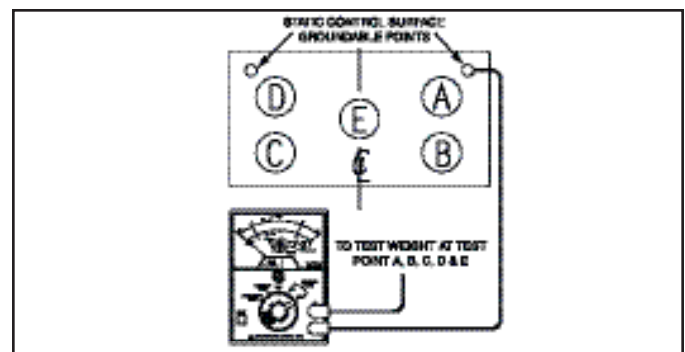

Figure 5. Qualification Tests of Installed Surfaces.
- B. Set the SCS 701 Analog Surface Resistance Megohmmeter Kit on a table top or other stable surface and place a test weight at the desired test point as shown in Figure 5. Connect the test leads to the meter using the right angle banana plugs at the meter. Then connect one of the test leads to the test weight and the other to the ESD GROUND using one of the supplied clips.
[Measurement of resistance of the top surface to the groundable point of the static control surface (RTS-GP)]. GROUNDABLE POINT is the point at which the grounding conductor is connected to the static control surface; the GROUNDABLE POINT is most commonly a snap (mats), a bolt (laminates), or a strip of conductive foil tape (flooring). This QUALIFICATION measurement is similar to those described in the test description section and is used to verify the correct installation of the GROUNDABLE POINT by the manufacturer or by the user. While the test procedure is the same, the test setup is slightly different; see Figure 5.